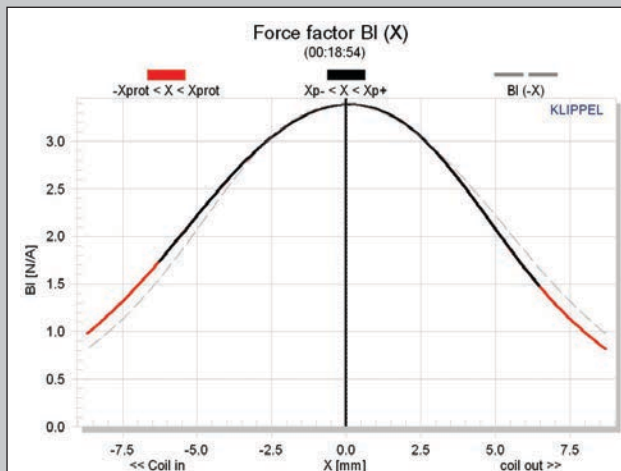
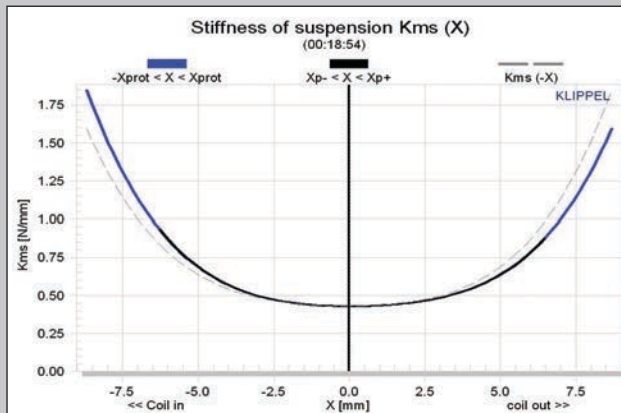

Figure 20: Klippel Analyzer BI (X) curve for the SB Acoustics SB12MNRX25-4
Figure 22: Klippel Analyzer mechanical stiffness of suspension $K_{ms}(X)$ curve for the SB Acoustics SB12MNRX25-4
Klippel analysis for the SB Acoustics 4" midrange produced the Bl(X), Kms(X) and Bl and Kms Symmetry Range plots in **Figures 20** to **23**. The Bl(X)
curve for the SB12MNRX (see **Figure 20**) is fairly narrow, but very symmetrical, about what you expect from a small Xmax midrange. For all practical purposes, there is zero offset indication, so about as good as it ever gets. **Figures 22** and **23** give the Kms(X) and Kms symmetry range curves for the SB Acoustics 4" mid. The Kms(X) curve, like the Bl curve, is very symmetrical with practically no offset, indicating a lot of design integrity. Dis-